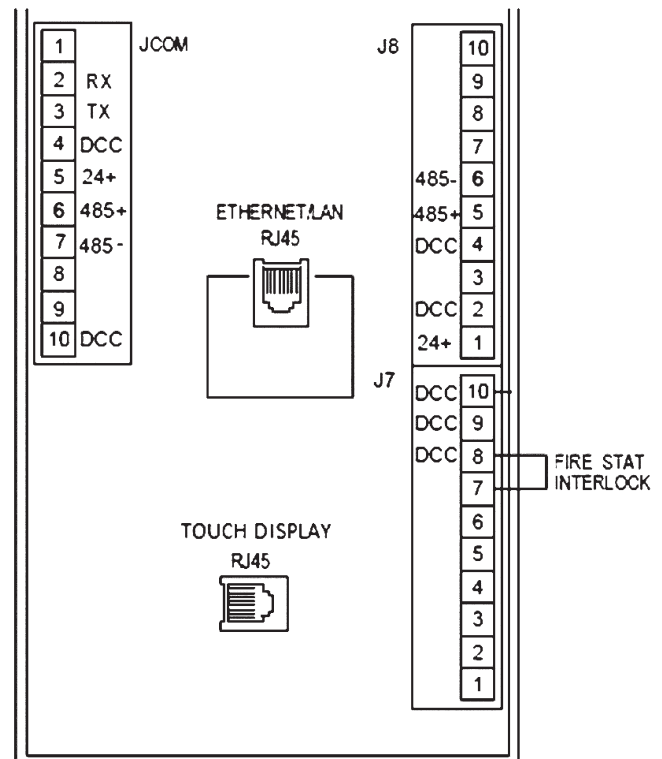

Figure 25. Dedicated Control Board RJ-45 Socket
- To do so, remove the factory installed jumper from pins 8 and 7 on board terminal J7 (see Figure 25) and connect dry-contact signal wires there.
Touch Display OP is normally installed inside the dehumidifier (referred to as local operator panel), and normally connected with factory-provided “patch” (straight-through) cable, plugged into dedicated control board RJ-45 socket (see Figure 25); this RJ-45 socket is internally connected to same serial port as pins 6 (485+) and 7 (485-) on the board terminal **JCOM**.
- Connect two wires to pins 5 and 6 on J8 terminal (see Figure 25):
LON communication is established over RS-232 serial port (hosted on the control board terminal JCOM (see Figure 25), and requires LonWorks Gateway (installed at the factory, if initially requested, or field-installed).